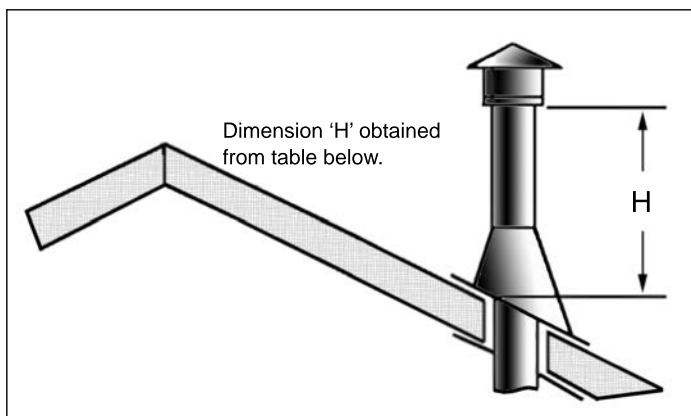

Figure 30: Height of Vertical Termination; Reference Table 5.
6. Once the pipe sections have been joined, and run up through the hole in the roof, slip an elbow strap over the exposed sections, bend the support straps outwards, and push the elbow strap down to the roof level, as shown in Figure 30. Tighten the clamp around the pipe section. Use a level to make sure the pipe is truly vertical. With roofing nails, secure the support straps to the roof. Seal the nails holes with non-hardening mastic. Trim the excess length of
7. Slip the flashing over the pipe section protruding through the roof. Secure the base of the flashing to the roof with roofing nails. Use a non-hardening sealant between the uphill edge of the flashing and the roof. Insure the roofing material overlaps the top edge of the flashing as shown in Figure 30. Verify that you have at least the minimum clearance to combustibles at the roof line.
9. Slip the storm collar over the pipe, and push it down to the top of the roof flashing as shown in Figure 30. Use the non-hardening sealant around the joint between the pipe and the storm collar.